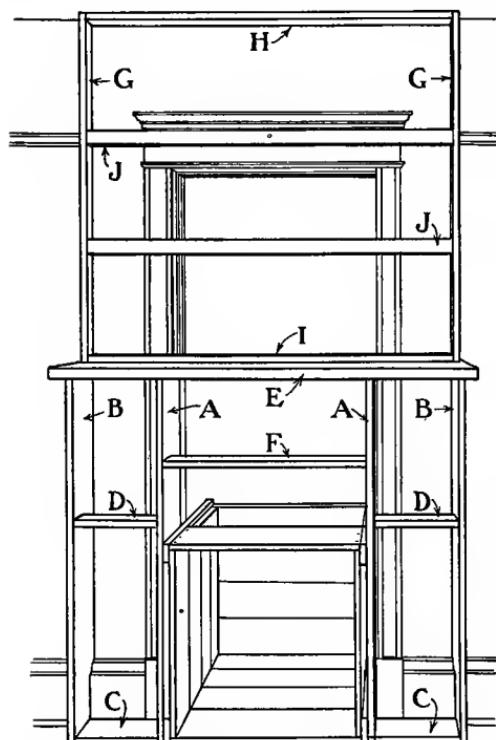
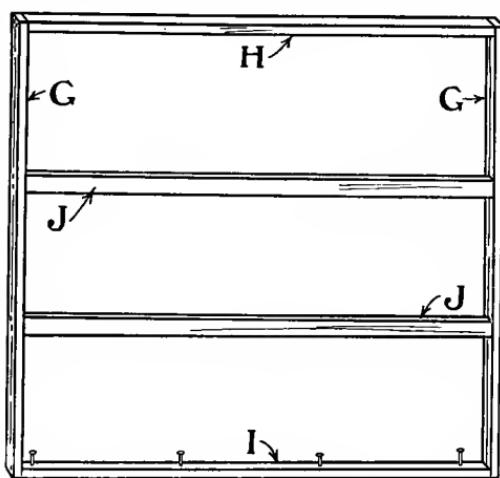

FIG. 339.—The Complete Framework of the Doorway Fireplace and Mantel.
FIG. 342.—The Chimney-Breast Framework.
As shown in Fig. 339, the packing-case stands upon one side so the top will form the front opening of the fireplace;
**The Mantel Framework.** An average height for a mantel is 4 feet 9 inches. Cut the uprights *A* and *B* (Fig. 339) 2 inches shorter than this measurement, out of 6-inch boards, and connect uprights *A* to uprights
The Mantel-Shelf (*E*, Figs. 339 and 341) is a piece of a 2 by 8 plank cut to the proper length to make a 2-inch pro-
jection over the tops of uprights *B* (Fig. 339). To set this shelf close to the wall, it is necessary to notch the back edge, as shown in Fig. 341, so it will fit around the door trim. Spike the shelf to the ends of uprights *A* and *B*. Fasten the crosspiece *F* between uprights *A*, halfway between the packing-case and the mantel-shelf, to nail the mantel facing to.
this length and 2 inches wide, and the horizontal strips *H*, *I*, and *J* equal in length to the distance between uprights *B* (Fig. 339). After fastening the strips together as shown in Fig. 342, with strips *J* placed flatwise so they will pass in front of the door trim, nail the
bottom strip *I* to the mantel-shelf and drive a small finishing-nail through the center of the upper cross strip *J* into the door trim (Fig. 339).